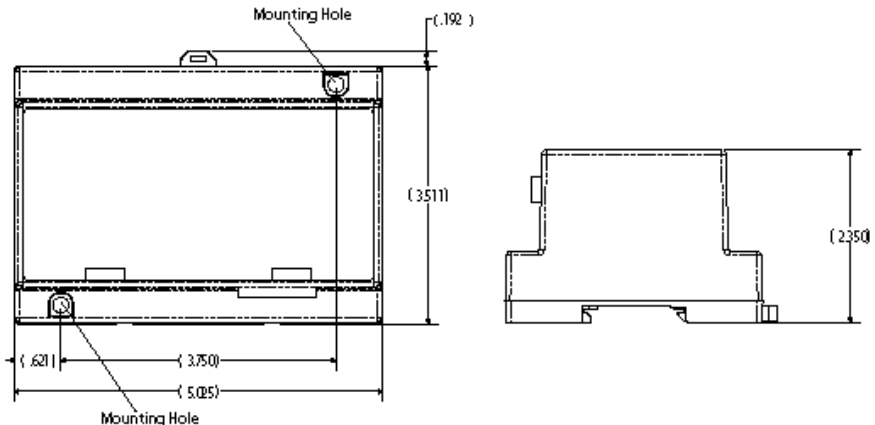

Figure 1: Mounting Diagram
1. Mount the ISS-105-ISO in a non-hazardous location on a DIN-rail, or by installing two #6-#8 screws into the mounting holes shown in Figure 1.